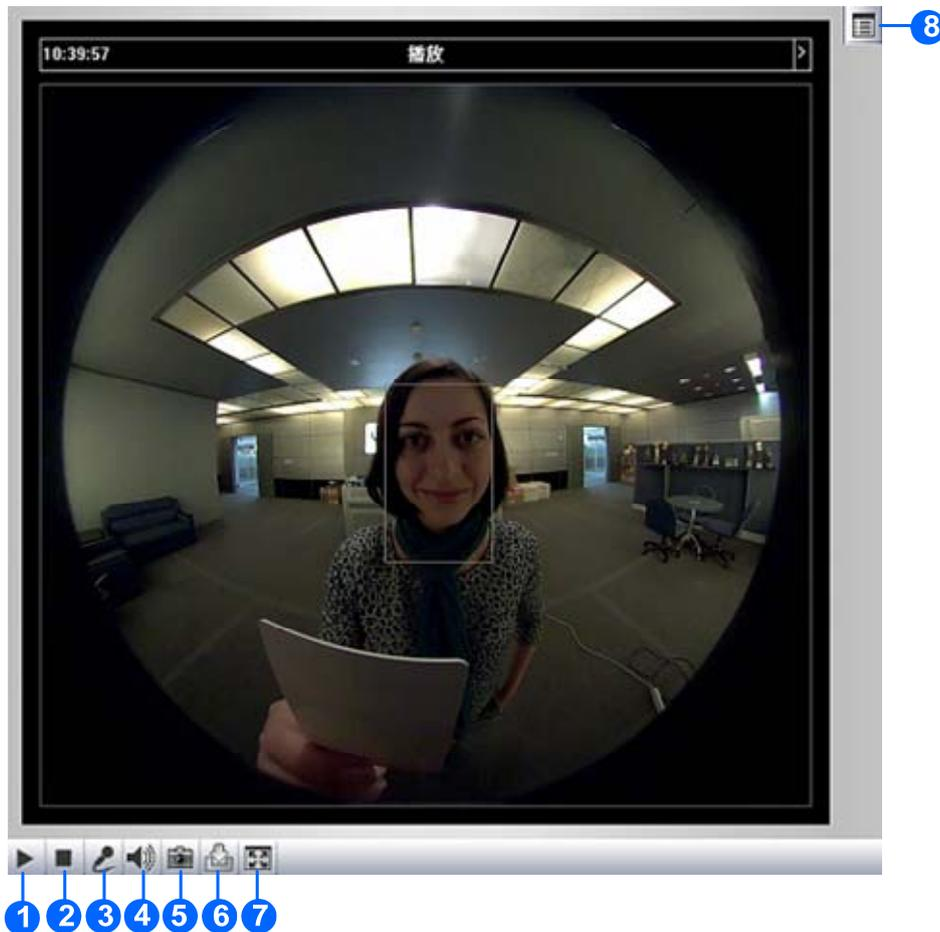

Figure 3-4
1. Click the **Snapshot** button (No. 5, Figure 3-4). The Save As dialog box appears.
1. Click the **File Save** button (No. 6, Figure 3-4). The Save As dialog box appears.
4. To stop recording, click the **Stop** button (No. 2, Figure 3-4).
You can enable the microphone and speaker for two-way audio communication and set the number of frames to keep for live view buffer. Click the **Show System Menu** button (No. 9, Figure 3-4), and select **Video and Audio Configuration**.